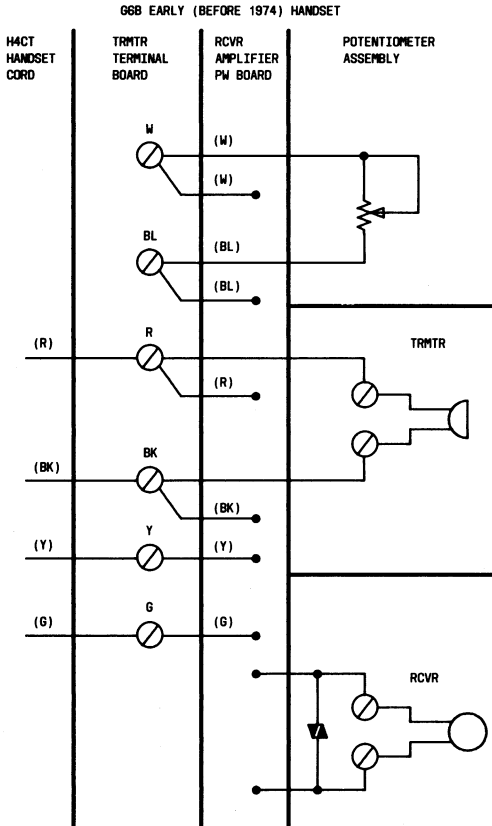

Fig. 1—G6B (MD) Early (Before 1974) Handset, Connections
3.04 Schematics: Internal connections of the amplifier type handsets are shown in Fig. 1 through 10.
- (1) Tone-out and identify one white conductor. For identifying purposes, loose knots may be tied in each end of this conductor, designating it green. The other white conductor is designated as yellow.
- (2) Loop and tie or tape the excess length of white conductors to approximate length of red and black conductors.
- (3) Insert conductors in transmitter bowl carefully so as not to disrupt the printed circuit board.
- (4) Connect to transmitter terminal board as shown in Fig. 1, 2, 3, 4, 5, or 6.